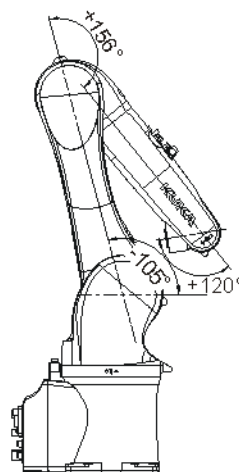

Fig. 11-6: Transport position
3. Put the robot into operation and move it into the transport position (>>> Fig. 11-6).